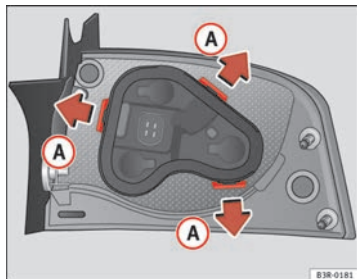

Fig. 212 Retaining tabs on reverse side of tail light
- Release the retaining tabs ⇒ fig. 212 (A).